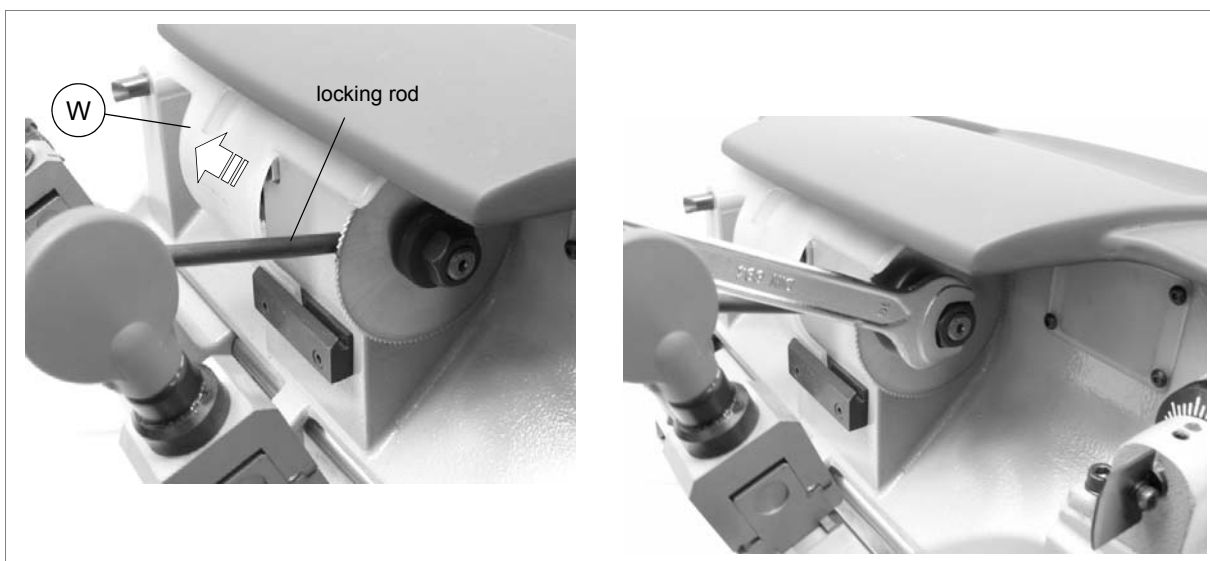

Fig. 46
- 1) Move the shield (W) to operate on the cutting tool to replace.
- 2) Slot the locking rod (standard) into the hole of the cutting tool shaft (fig. 46).